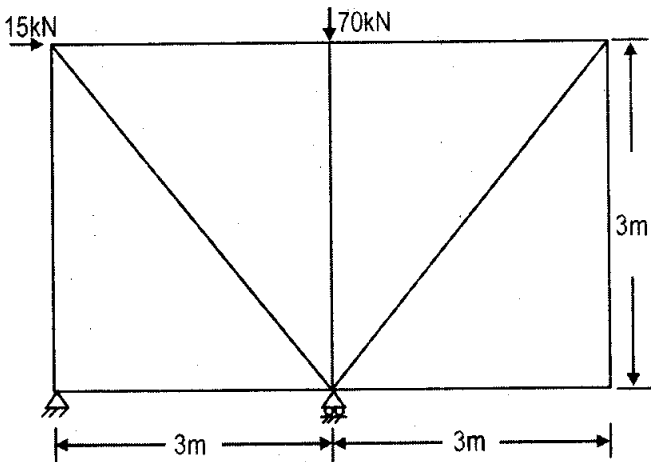

Figure 4
4. Determine the forces in all members of the truss as shown in figure 4 by method of joints. [14]